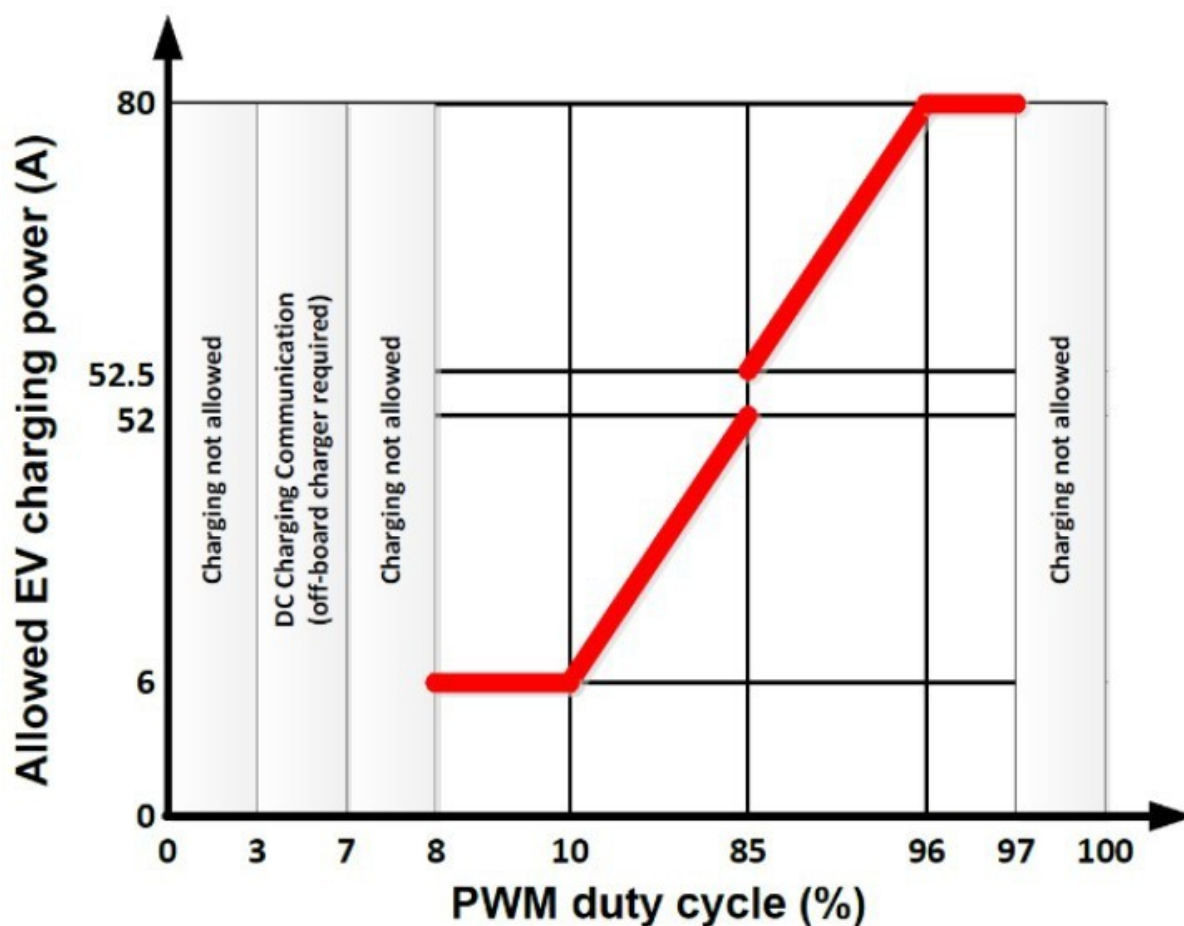

Figure 3: Relation between Control Pilot duty cycle and maximal charging rate as per IEC61851.
- Duty cycle to charging current limit relation is calculated from the graph shown in Figure 3